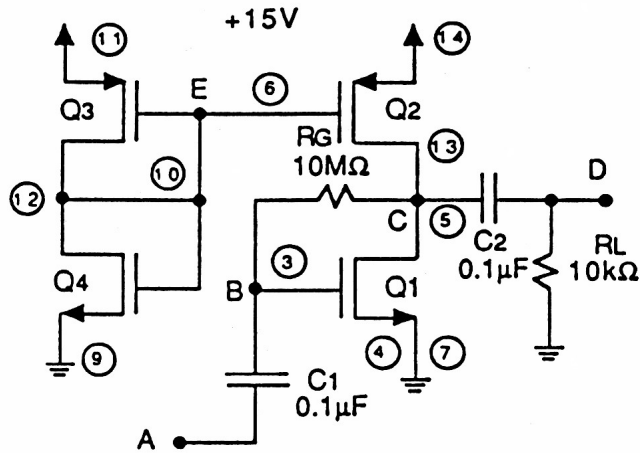

Figure 5: CMOS common-source amplifier.
- For the circuit of Fig. 5, in which  $|V_t| = 1\text{ V}$  and  $k = 0.6\text{ mA/V}^2$ , find the device drain currents which result, and  $V_C$ .
- **Setup:** Assemble the circuit shown in Fig. 5 using Q2, Q3 and Q4 to provide a constant-current load to Q1. Note: the substrate connections are essential!
- **Setup:** Use Fig. 5, as above, with a 0.1 Vpp triangle wave at 10 kHz applied at A.